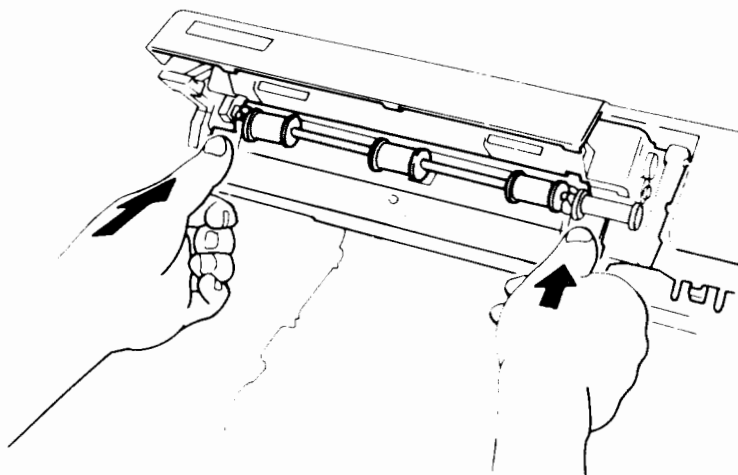

Figure 7-9 Closing the heat roller housing
7. Tilt the exit roller assembly up as shown in Figure 7-9 and press gently until it snaps shut.